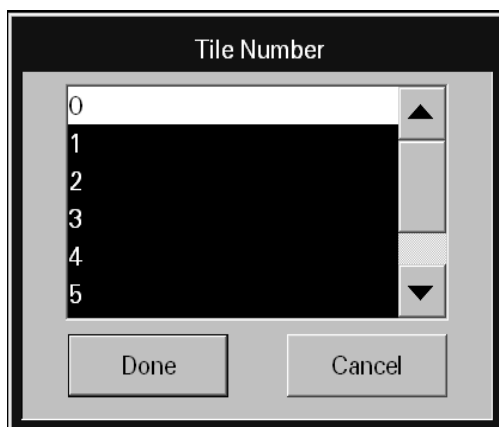

FIGURE 14-2 Tile Number List Box
2. Select the **Add** button. The Tile Number list box is displayed (shown in FIGURE 14-2).